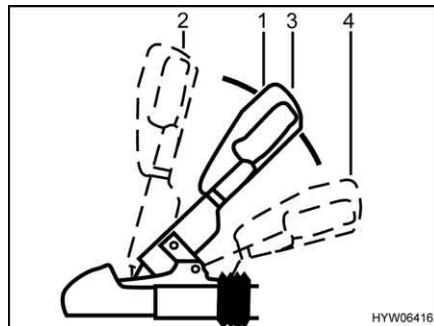

Fig. 5 WS 3000 D stabiliser
- Pull the coupling handle (Fig. 5,1) upwards into position "Open" (Fig. 5,2). Stabiliser is open.
- Set down the open stabiliser on the caravan ball of the towing vehicle and release the coupling handle. The handle glides automatically back to its initial position (Fig. 5,3).
- Activate the stabilising mechanism. To do this, press the coupling handle downwards (Fig. 5,4) from the closed position (Fig. 5,3) to its stop limit.
To deactivate the stabilisation mechanism, e.g. for manoeuvring, pull the coupling handle (Fig. 5,1) slowly upward to the closed position (Fig. 5,3).